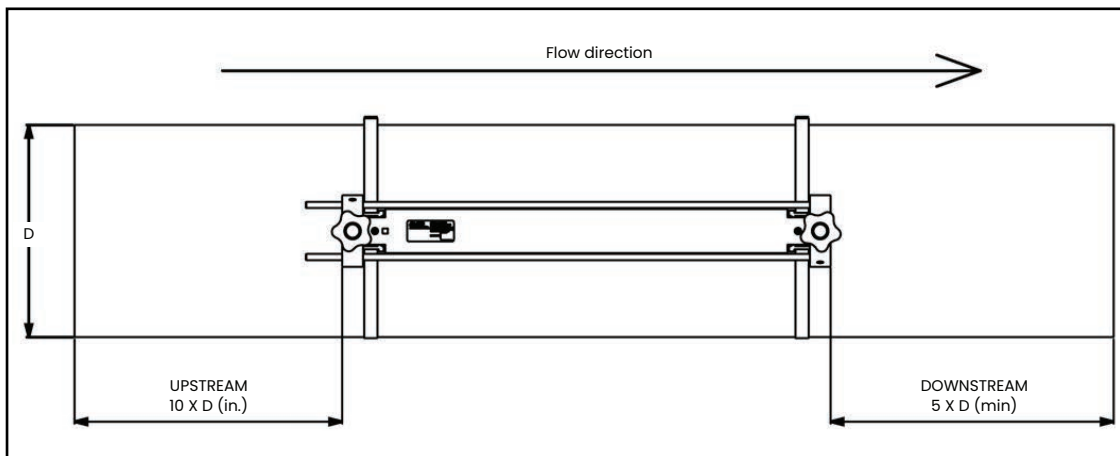

Figure 7: AT600 clamp-on fixture/transducer location
- Position the clamp-on fixture(s) and transducer system so that there are at least 10 pipe diameters of straight, undisturbed flow upstream and 5 pipe diameters of straight, undisturbed flow downstream from the measurement point (see figure 7 below). Undisturbed flow means avoiding sources of turbulence in the fluid such as valves, flanges, expansion joints, elbows, swirl, and cavitation.
- a. Choose a location with enough straight pipe run (refer to Figure 7 on page 7).